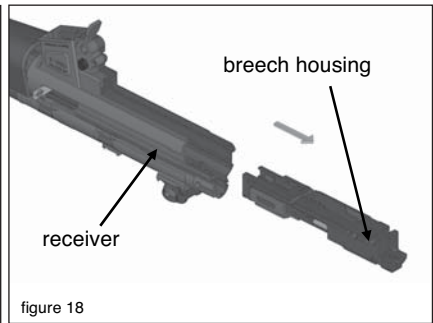

figure 18
8. Now you can pull out the breech housing. (figure 18)